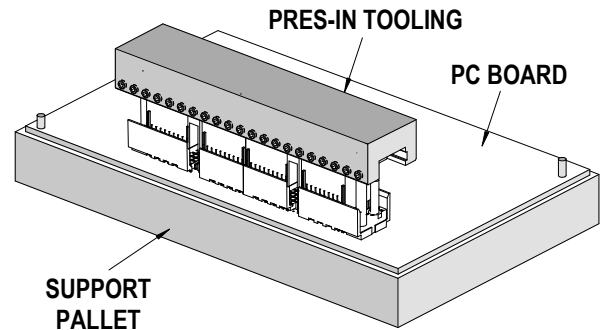

Figure 2-7
3. Locate the tooling assembly in the connector assembly, carefully checking alignment. See Figure 2-7.